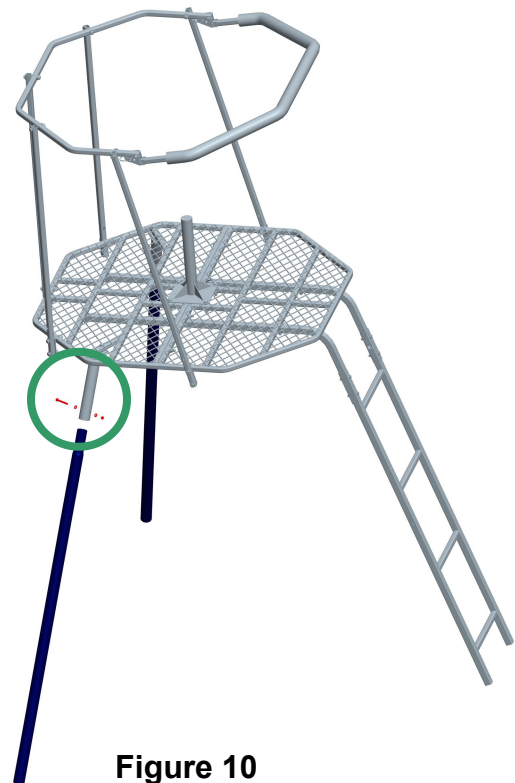

Figure 10
Locate two Leg Sections #3 (#11). Install two Upper Leg Sections #3 (#11) onto the Leg Supports (#5) using two (2) M6x50 Bolts, four (4) Steel Washers and two (2) Locknuts as shown in Figure 10.